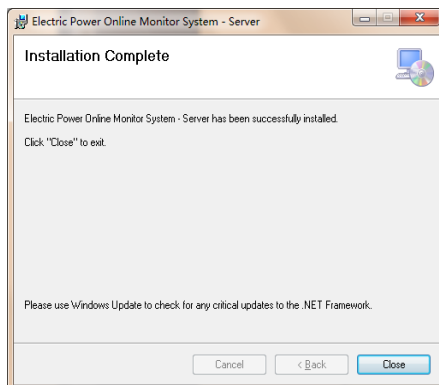

Fig. 3.5
5). Click “Confirm”, installation complete, and click “Close”. Shows as Fig. 3.5